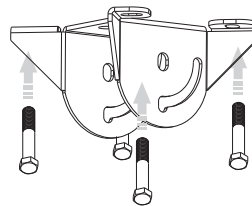
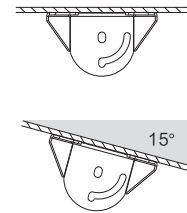
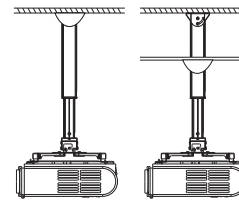

figure 1
figure 2
figure 3
- 1 Install the fixation on the ceiling (screws of accessory ① or ⑧) as figure 1, and the fixation also can be installed on the ceiling which angle is less than 15° as figure 2. GPCN-D can be installed to the concrete-roof with ceiling or without ceiling, such as figure 3.